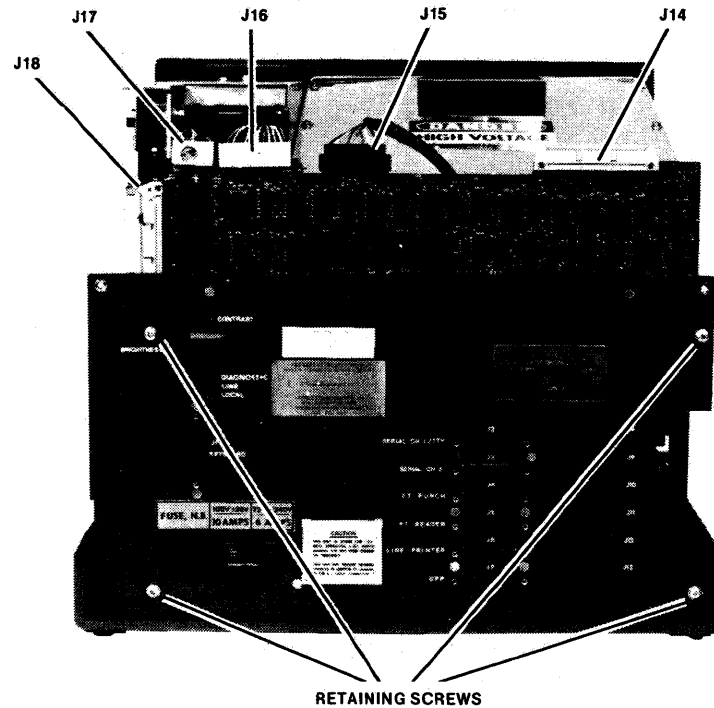

Figure 5-8. Mainframe Rear Panel
- e. Remove mainframe top cover. Refer to figure 5-8 and carefully disconnect connectors J14 through J18 from mating connectors on top edge of IOC assembly.
- f. Remove the four rear panel retaining screws shown in figure 5-8. Gently pull rear panel away from mainframe chassis to access rear of connectors J8 and J9.
- h. Reconnect cables to connectors J14 through J18 on IOC assembly. (Refer to figure 5-8.) Replace mainframe top cover.
- d. Refer to figure 5-8 and carefully disconnect connectors J14 through J18 from mating connectors on top edge of IOC assembly. Remove the four rear panel retaining screws. Gently pull rear panel assembly away from mainframe to access rear of connectors J8 and J9.